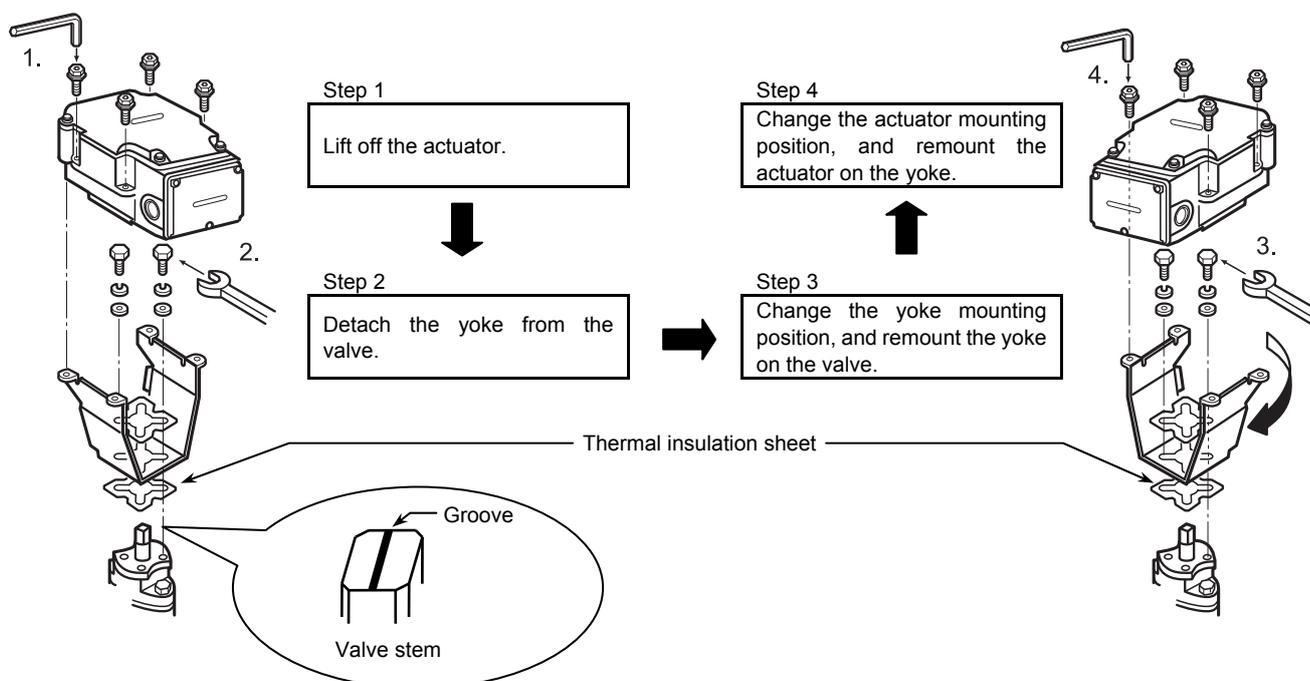

Figure 8. Changing the actuator mounting position
- 1) Remove the screws connecting the actuator and the yoke. Lift the actuator and detach it from the yoke. Make sure that the groove on the top of the valve stem is parallel to the pipes (indicating the valve in 100 % position). <Step 1 in Fig. 8>
- 2) Remove the screws connecting the yoke and the valve. <Step 2 in Fig. 8>
- 5) Before fixing the yoke to the valve with the screws, check that the actuator engages correctly with the valve stem (at the new mounting position). Check that the pointer of the actuator indicates 100 % position as well. Then, fix the yoke to the valve. <Step 3 in Fig. 8>